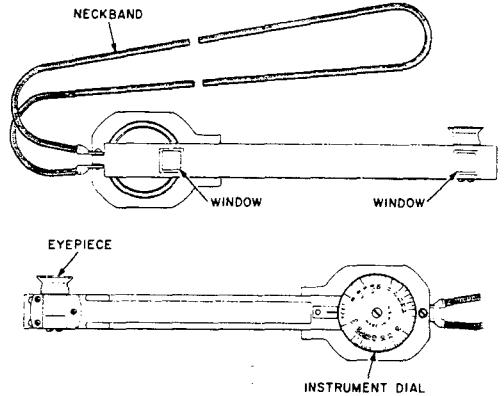

Fig. 1—Range Finder
2.01 The Range Finder employs an optical system with a 6-inch base length. A prism at the eyepiece end of the instrument permits measuring vertical distances while holding the instrument horizontally. The optical system is encased in an 8-1/4 inch long metal housing, with a neckband attached (Fig. 1).